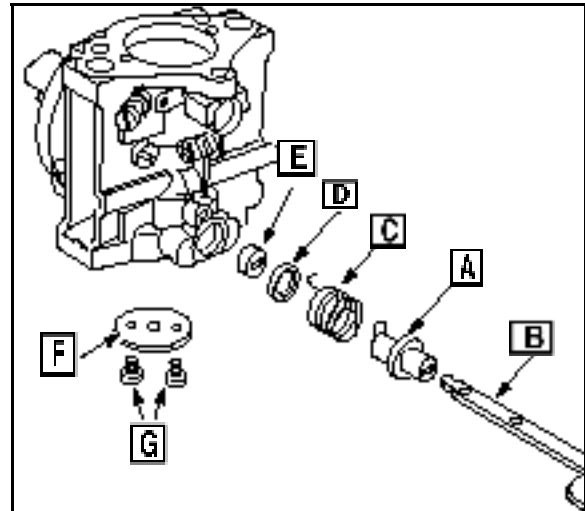

Fig. 105
- Assemble retainer ([A] Fig. 105) on choke shaft (B).
- Place choke shaft spring (C) on shaft and hook small hook in notch on choke lever
- Assemble washer (D), and retainers (E) to choke shaft.
- Insert choke shaft assembly into carburetor body. Engage large end of return spring (C) on boss.
- Place choke plate (F) on shaft, single notch on edge towards fuel inlet. Two half moon dimples position the plate on the
shaft. Secure with two screws ([G] Fig. 105).